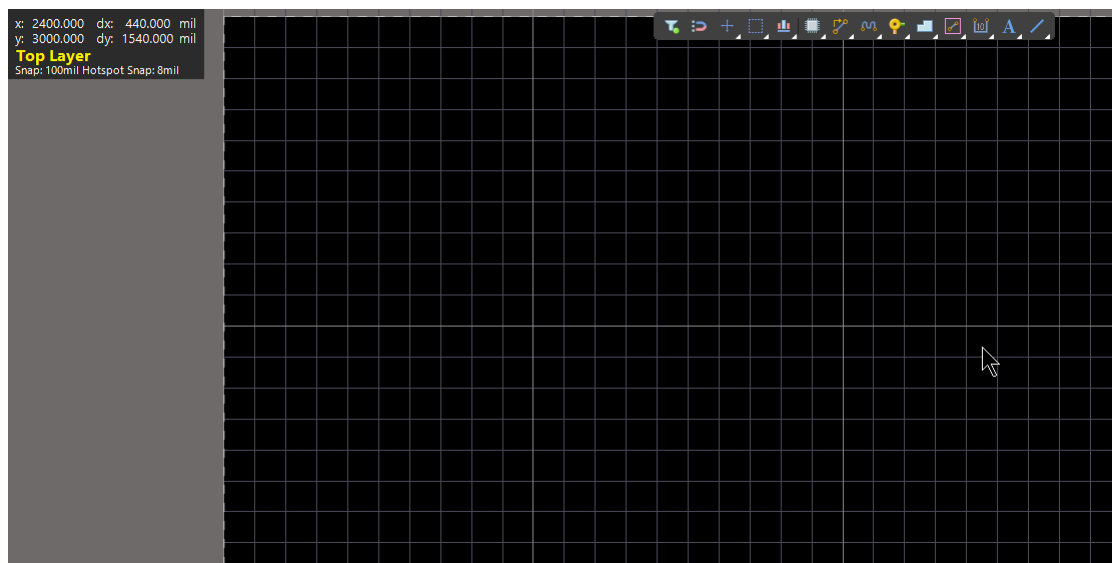

Figure 4. Modified default grid setting
19. Examine the new grid to see the changes as shown in Figure 4 below. Notice that there are 10 fine grids to each coarse grid and the smallest division is 10mil.